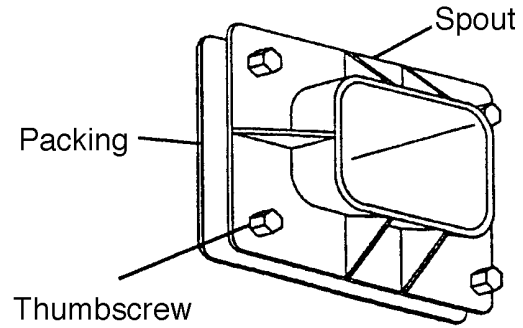

Fig. 11
- 5) Remove the thumbscrews, the Spout and the Packing. See Fig 11.